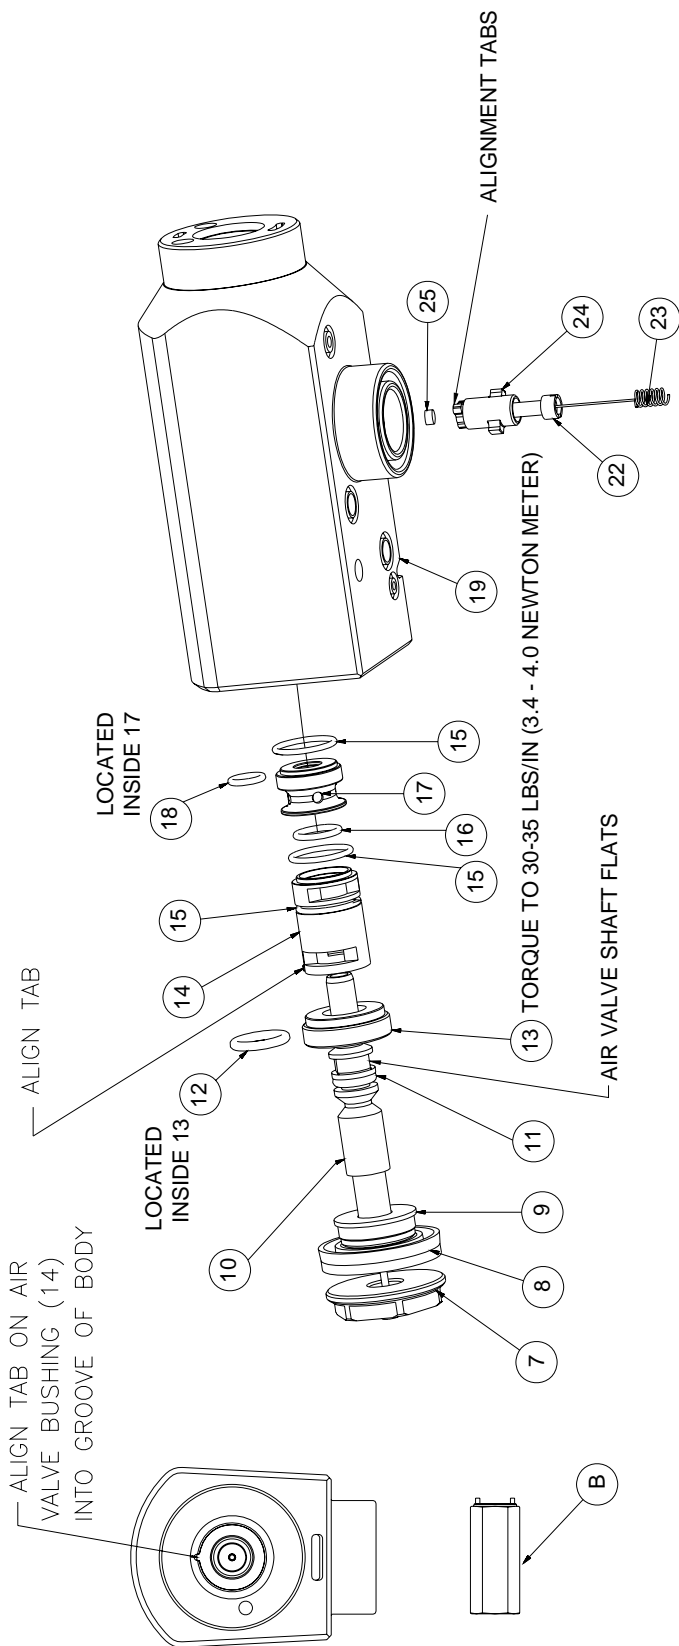

Figure 9: 79138 Evolver Gun Head Assembly
## Air Valve Removal (See Figure 9)
6. O-rings [12] and [18] must be installed inside their mating parts (see Figure 9).
8. Reassemble the remaining parts, as shown in Figure 9, making sure that the alignment tab on the bushing [14] lines up with the align groove in the body [19].
79138 EVOLVER GUN HEAD ASSEMBLY - PARTS LIST (Figure 9)